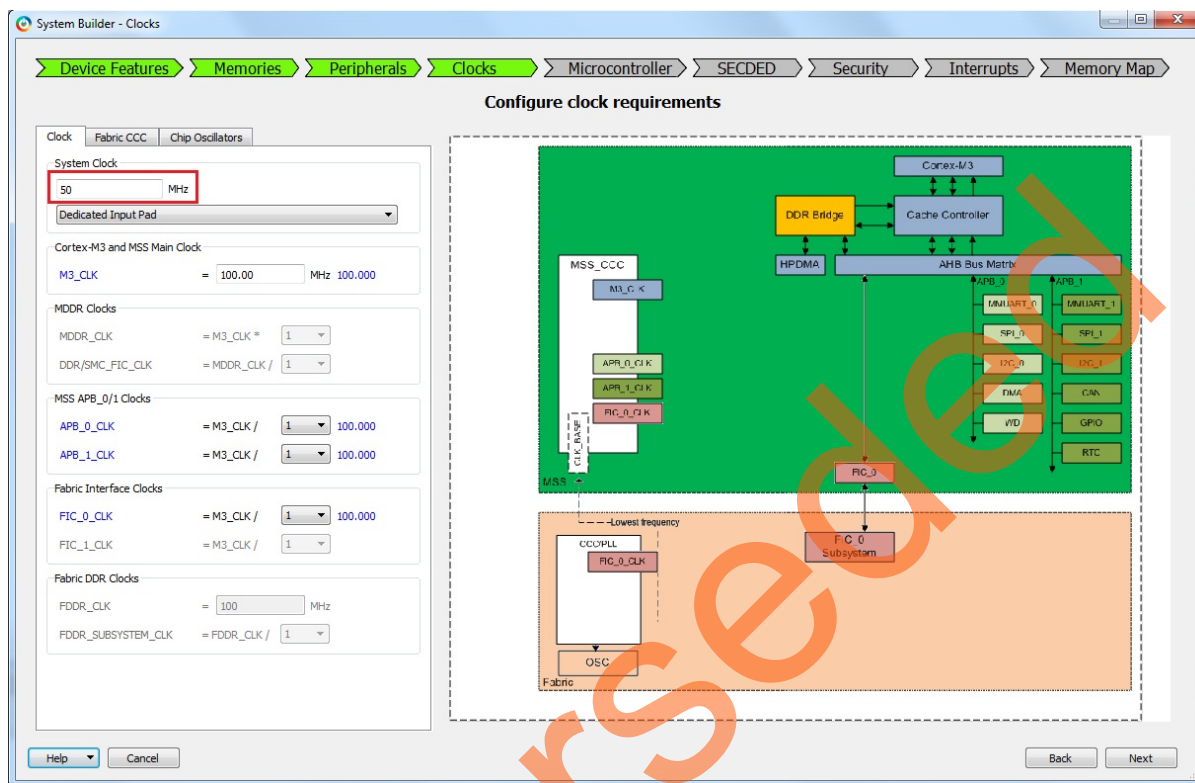

Figure 13 • System Builder Configurator – Clock Page
16. Click **Next**. The **System Builder – Clock** page is displayed, as shown in Figure 13. Change the configuration of **System Clock** from 100 MHz to 50 MHz. The dedicated input pad will be connected to on board 50 MHz oscillator. The M3 CLK is configured to 100 MHz by default.